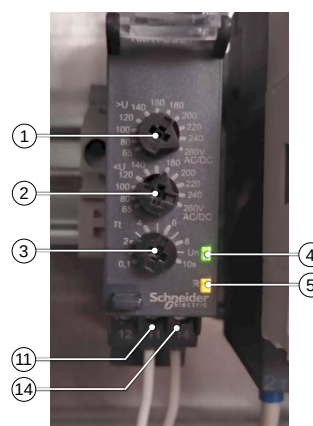

Figure 4: Voltage control relay
Voltage control relay (Fig.4) is intended to protect the machine from improper connection and from voltage deviations in the service grid.
1. Locate the relay, see Fig.4
2. Set the knob (1) at 260 V.
3. Set the knob (2) at 180 V.
4. Set the knob (3) at 2 s.